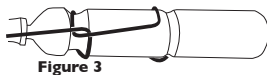

Figure 3
- Wrap the end loop onto the battery and ensure the front loop locks onto the neck of the battery. (Figure 3)